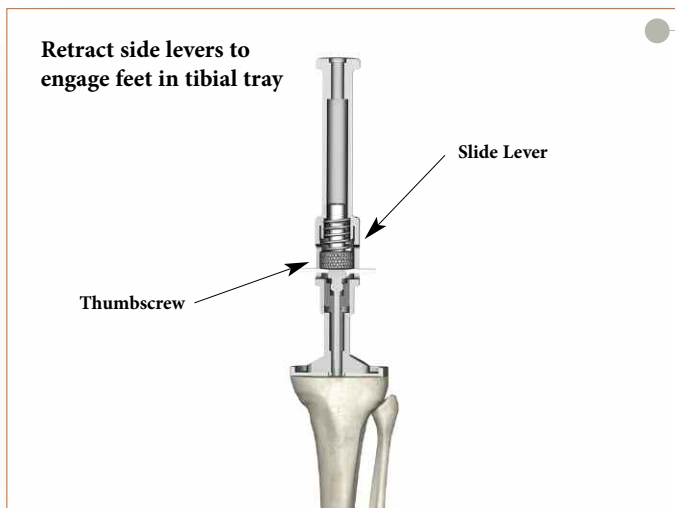

Figure 83
- Assemble the Tibial Component Impactor/Extractor to the implant. To assemble, retract the slide rod levers and insert the "feet" into the central hole in the tibial tray. Release the levers and tighten the knurlend thumbscrew by hand to securely engage the impactor/extractor to the implant (Figure 83).